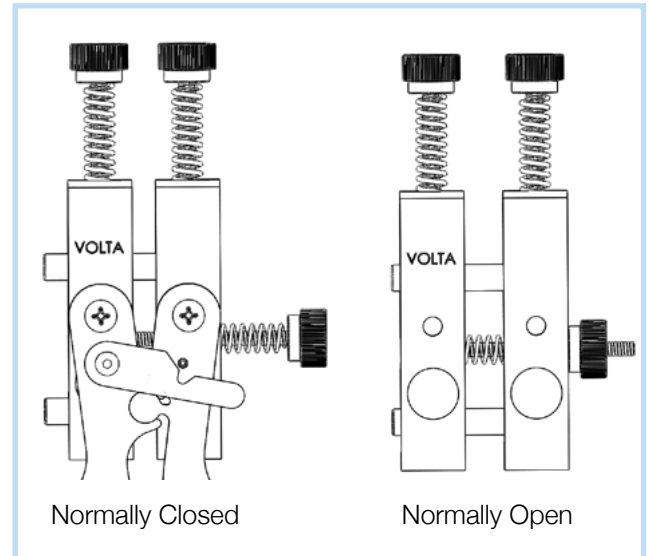

Fig. 3
The Mini R8 pliers can be used in two different positions (fig. 3).
1. Unscrew the locking nut (7) until it is completely disconnected from the locking bolt (2).
2. Pull the rider (8) away from the platform (3) until it is completely disconnected from the bars (1).
3. Place the spring (10) in the desired position (refer to Fig. 3):
- a. Between the rider (8) and the platform (3) for normally open use.
- b. Between the platform (3) and the locking nut (7) for normally closed use.
4. Screw the locking nut (7) to the locking bolt (2).